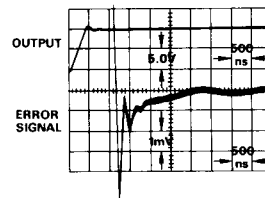

Figure 4. AD509 with 500pF Capacitive Load
**SETTLING TIME VS. CAPACITIVE LOAD.** The AD509 will drive capacitive loads of 500pF without appreciable deterioration in settling time. Larger capacitive loads can be driven by tailoring the compensation to minimize settling time. Figure 4 shows the settling time of a typical AD509, compensated for unity gain with a 15pF capacitor, with a 500pF capacitive load on the output. Note that settling time to 0.01% is still under 2.0 $\mu$ s.